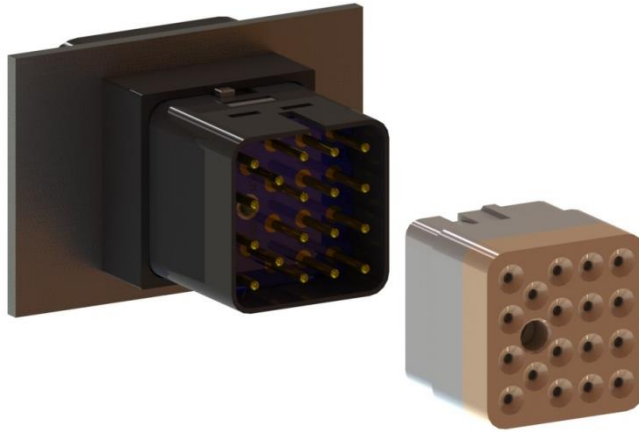

Figure 15
- 3.12. For crimp type termination re-install receptacle to switch housing and torque screws to  $8 \pm 2$  inch ounces (Figures 15 and 16).